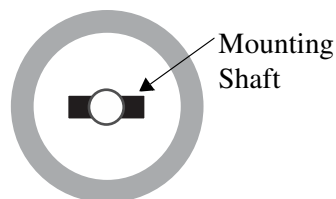

Figure 1. Rear View: Connect the Mount Shaft to the Actuator Shaft
4. Install the new valve flush into the actuator by mating the mounting shaft onto the actuator shaft; see Figure 1.